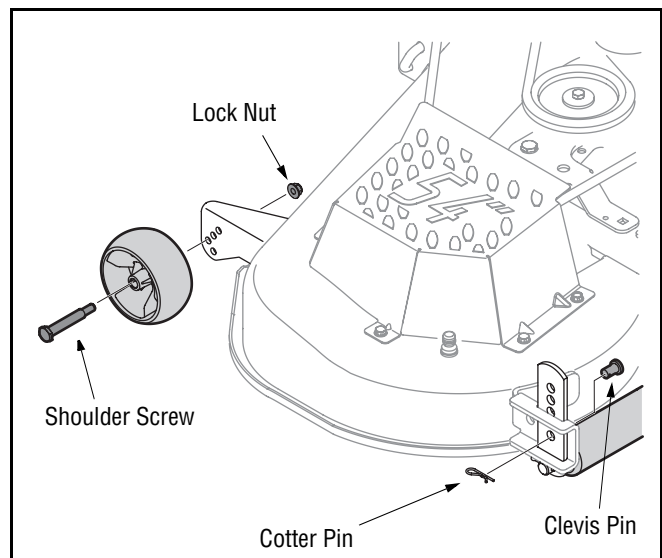

Figure 3
- Remove the clevis pins and hairpin clips from the deck roller brackets on the left and right sides of the cutting deck. See Figure 3.